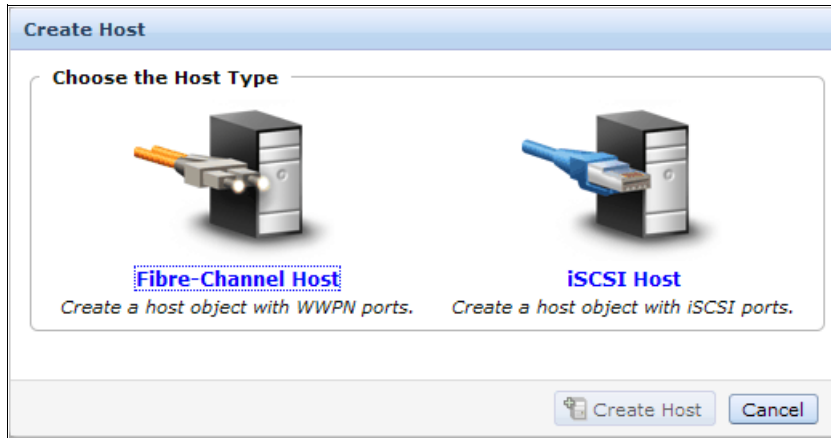
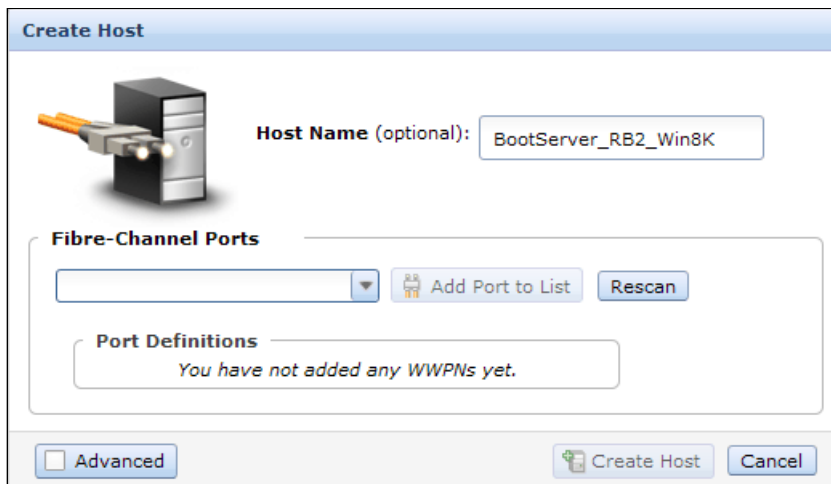

Figure 5-25 Create Host
Figure 5-26 Create FC Host
Create a new host by clicking **New Host** or **Actions** → **New Host**. That will start the wizard as shown in Figure 5-25.
1. Click **Fibre Channel Host** as shown in Figure 5-25. The resulting window will be displayed as shown in Figure 5-26.